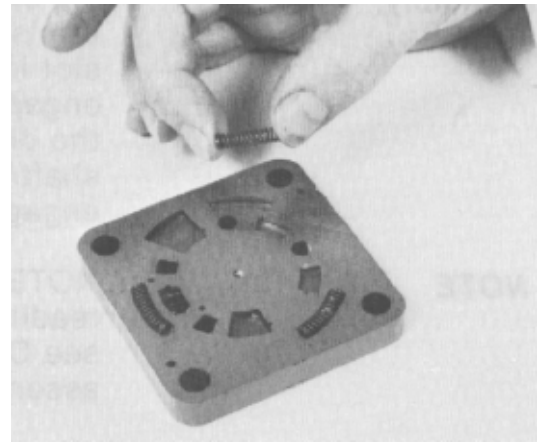

Figure 121
39. Put the port manifold (three plates bonded together), valve side up, in a clean surface. Install three 3/4 in. springs into the spring pockets (Fig. 121).